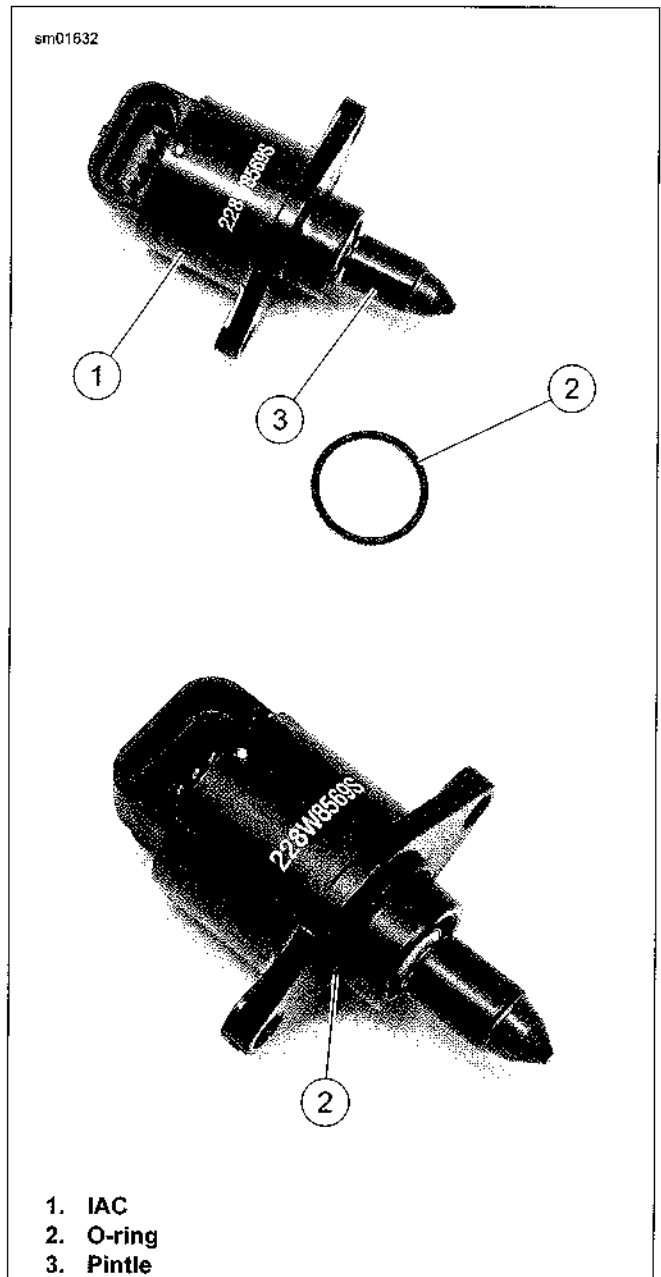

Figure 4-30. IAC and O-ring
1. See Figure 4-30. If reusing IAC (1), inspect O-ring (2) for damage. Replace or repair as necessary.